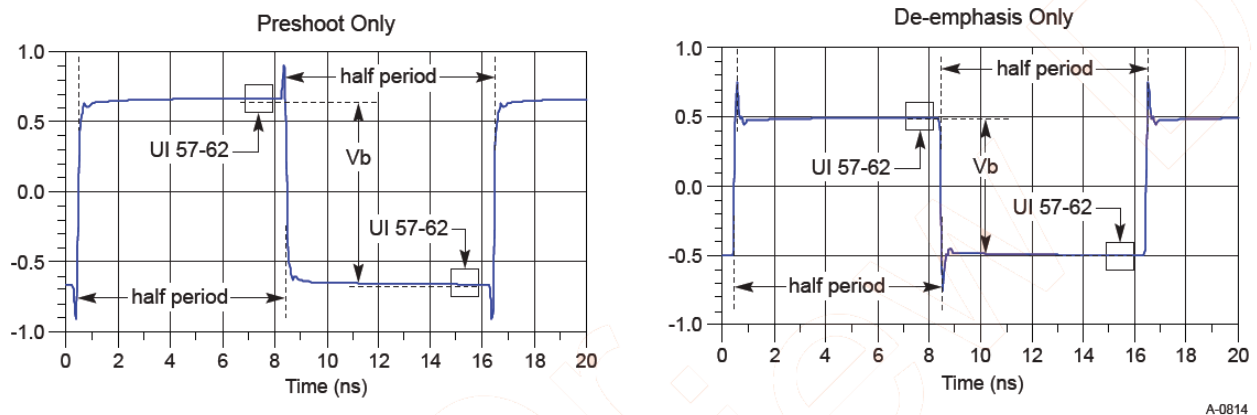

Figure 191 Waveform measurement points for preshoot and de-emphasis
8.0 GT/s, 16.0 GT/s and 32.0 GT/s PCIe signaling must support the full range of presets given in Table 8-1 (PCIe Base Specification Revision 5.0). Presets are defined in terms of ratios, relating the pre-cursor and post-cursor equalization voltages. The pre-cursor (V_c) is referred to as pre-shoot, while the post-cursor (V_b) is referred to as de-emphasis. This convention permits the specification to retain the existing 2.5 GT/s and 5.0 GT/s definitions for Tx equalization, where only de-emphasis is defined, and it allows preshoot and de-emphasis to be defined such that each is independent of the other. The tolerances in Table 8-1 (PCIe Base Specification Revision 5) also apply to 2.5 and 5.0 GT/s de-emphasis. The maximum swing, V_d , is also shown to illustrate that, when both c_{+1} and c_{-1} are nonzero, the swing of V_a does not reach the maximum as defined by V_d . The high frequency nature of PCIe signaling makes measurement of single UI pulse heights impractical. Consequently all amplitude measurements are made with low frequency waveforms as shown in Figure 191.